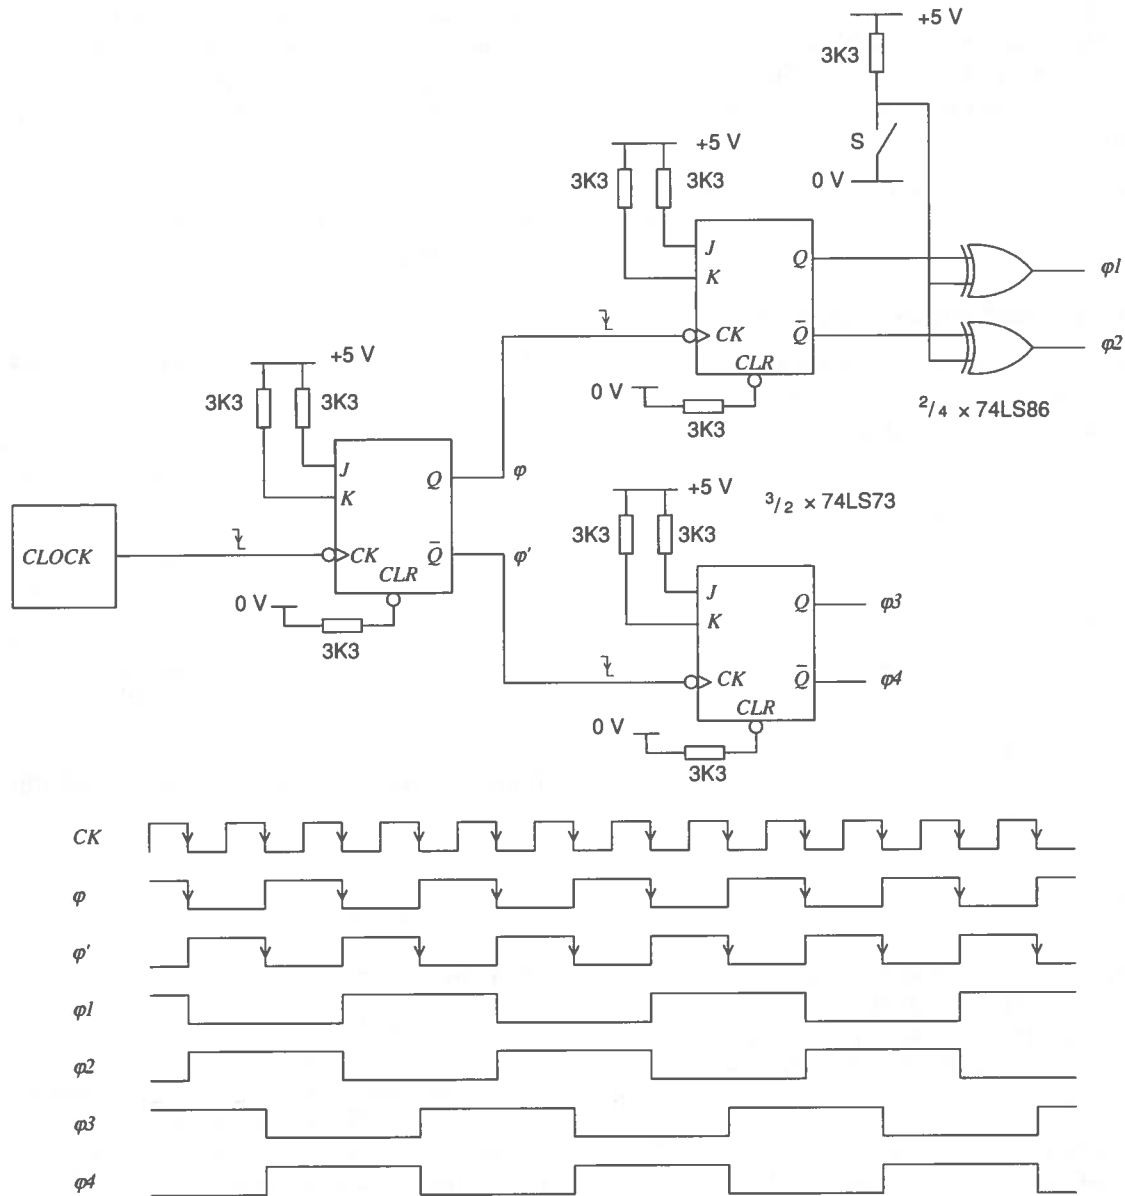

Fig.3 - Generation of 4-phase supply
By successively dividing a clock pulse by two, twice, using three J-K flip-flops, the requisite 4-phase signals can be generated (Fig.3).
2. Set up the apparatus as in Fig.3 on page 12 of *SSERC Bulletin 172*. Adjust the conductivity meter to the 1×10^{-3} Siemens scale.